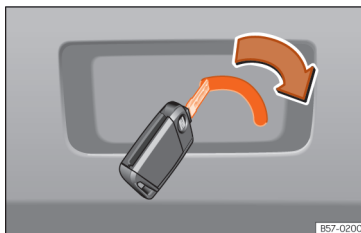

Fig. 11 Luggage compartment: manual release.
- To unlock the rear lid, push the lever in the direction of the arrow using the key blade »» Fig. 11.